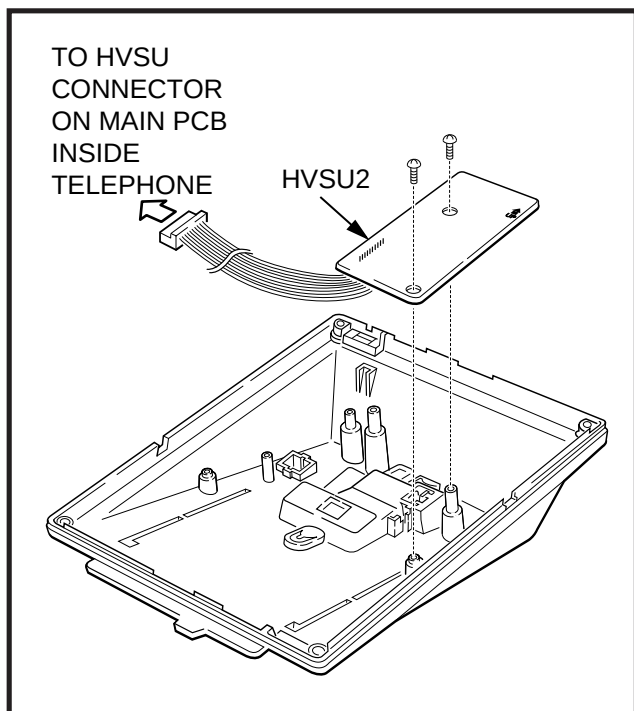

FIGURE 7-12
- 2) Position the HVSU2 on the standoffs inside the base, and secure with the two provided screws (Figure 7-12).